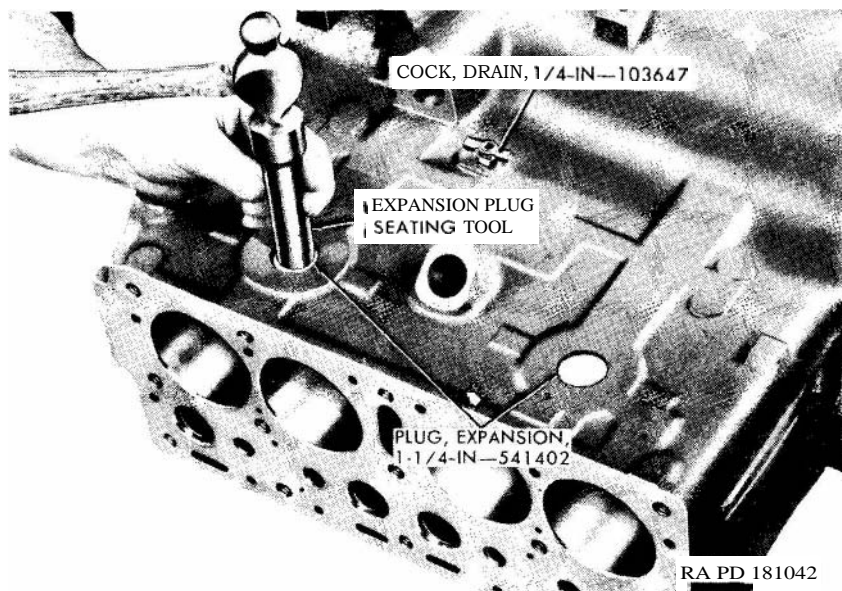

Figure 31. Installing expansion plugs.
d. Pierce the centers of the two expansion plugs (fig. 31) with a sharp chisel, and pry the plugs out of the cylinder block.
1 1/4-inch expansion plugs (D) in the right side of the cylinder block and the one 1 3/4-inch expansion plug (B) in the camshaft bore in the rear end of the cylinder block. Use the improvised expansion plug seating tool to seat the plugs in the block (fig. 31).